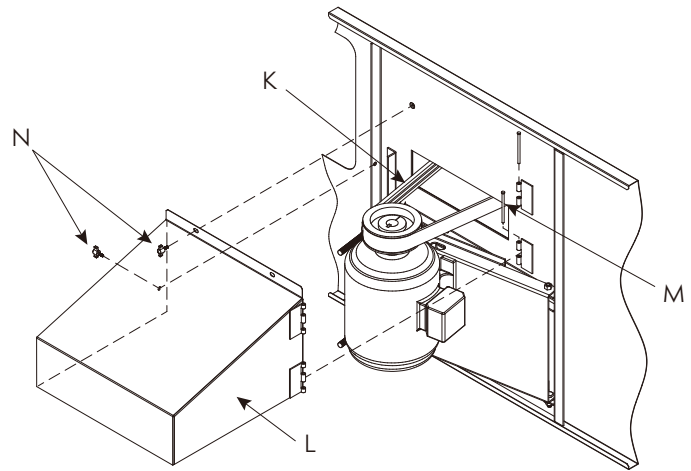

Figure 17b – Motor Guard and Power-Band Belt Installation
7. Install Power-Band belt **K** (**Figure 17b**) around fan sheave and motor sheave. Tighten belt by adjusting nuts on J-bolts. Do not overtighten the belts. The center of the belt should deflect approximately 1/2" (13mm) in the horizontal plane with moderate hand pressure.
10. To install motor guard **L**, match up hinges and install hinge pins **M** as shown in **Figure 17b**.